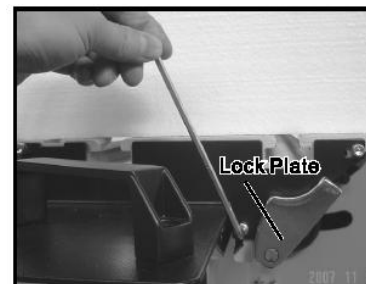

fig.26
2. Install right end plate (Fig. 26) using 4 of the screws removed in the previous step.